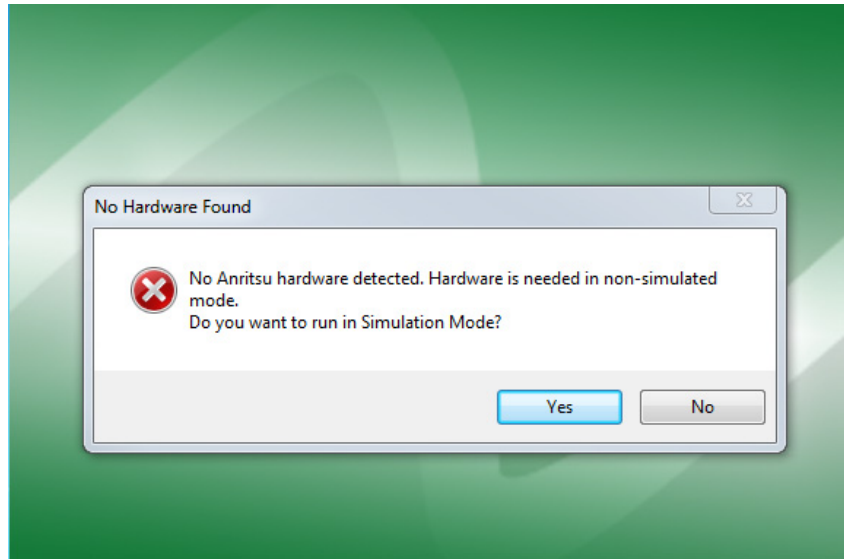

Figure 3-7. ShockLine GUI Initialization Screen
- From the No Hardware Found dialog box, Figure 3-7, select yes to run in Simulation Mode.